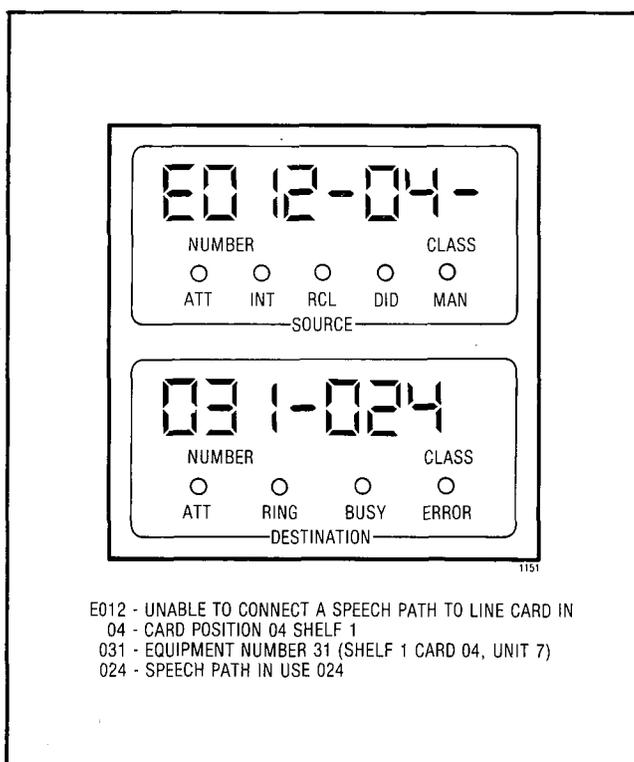

Fig. 3-2 Typical Readout
3.04 A typical alarm readout in the SOURCE display is shown in Fig. 3-2.
3.06 ERROR CODES: Table 4-4 is a list of error codes displayed on the console, indicating the card causing the malfunction and the type of malfunction. Fig. 3-2 shows a typical error display and its interpretation.